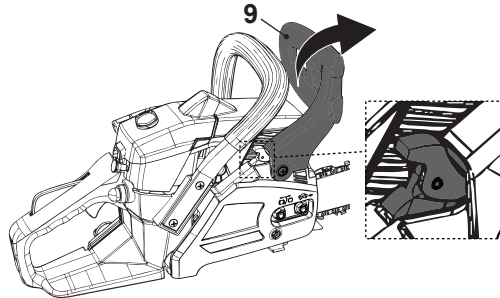

Fig. 23, Engage chain brake
Engage chain brake: When the chain brake lever (9) is in the engaged position, the saw chain is stopped as soon as the chain brake is activated (Fig. 23).